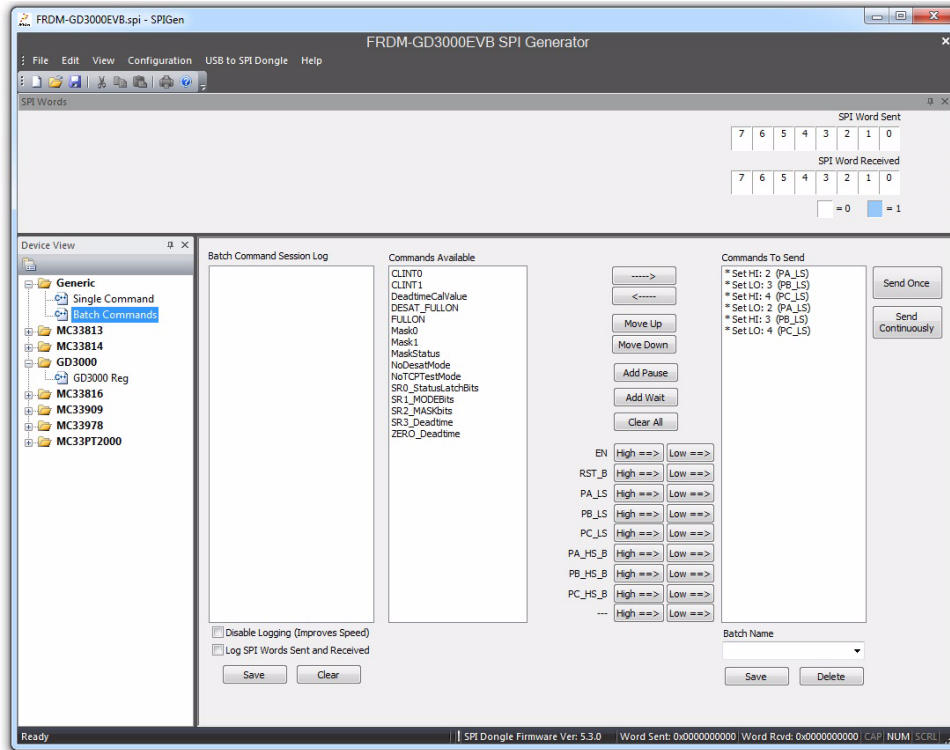

Figure 18. SPIGen batch commands
- To send batch commands to the device, click on **Batch Commands** under **Generic** in the **Device View** panel. See Figure 18.